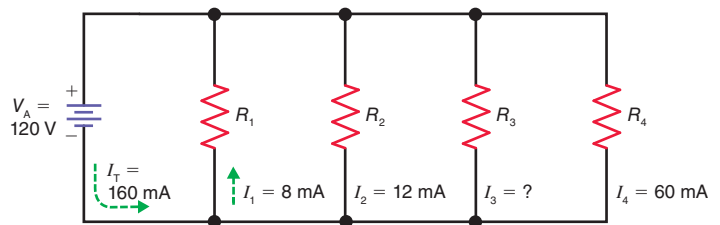

Figure 6-21
- 6.16 In Fig. 6-21, apply Kirchhoff's current law to solve for the unknown current, I_3 .